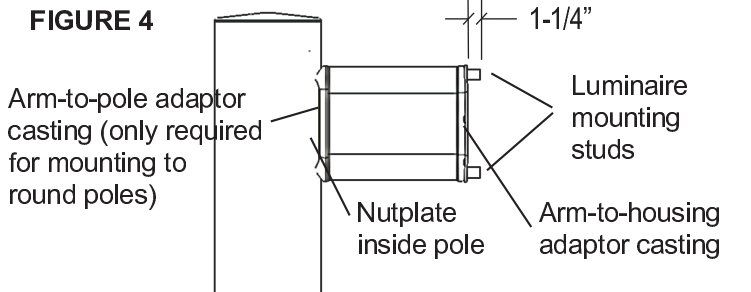

FIGURE 4
5. Mounting studs should extend out of arm 1-1/4". See Fig. 4.